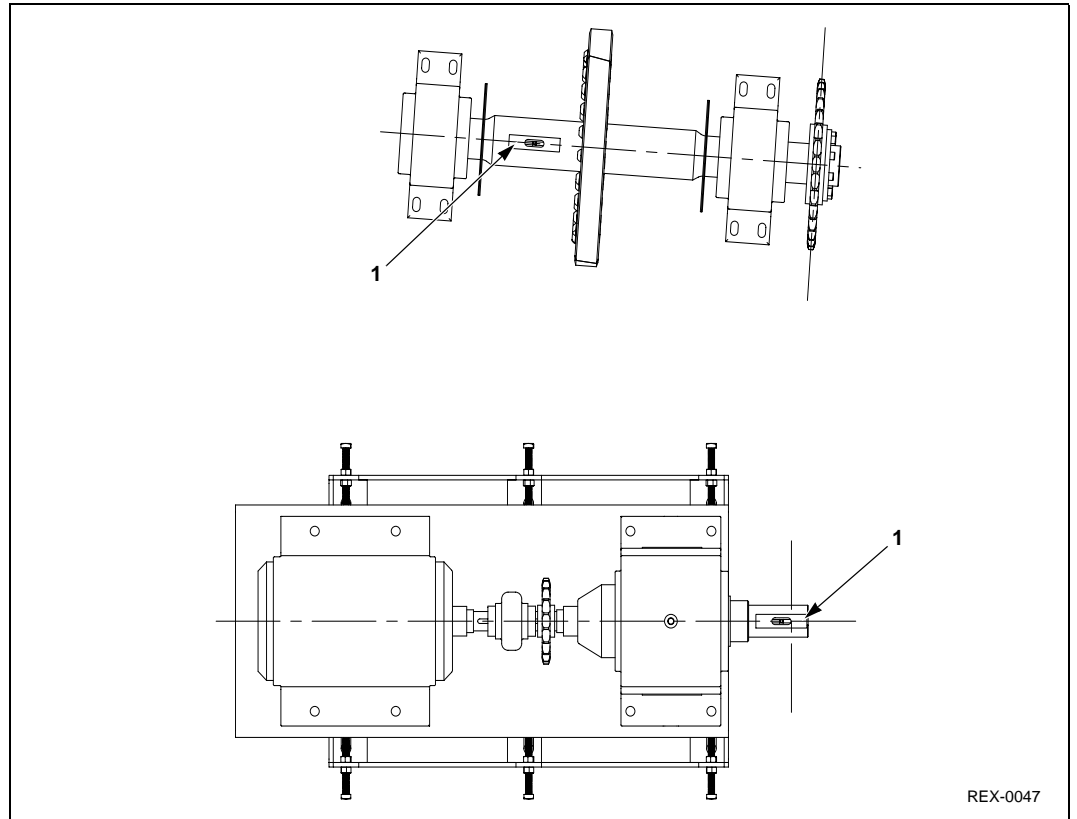

Figure 4-48:
1. Carefully level the shafting to the same plane. Use machinist's level directly on shafts to set horizontal alignment. See Figure 4-48.